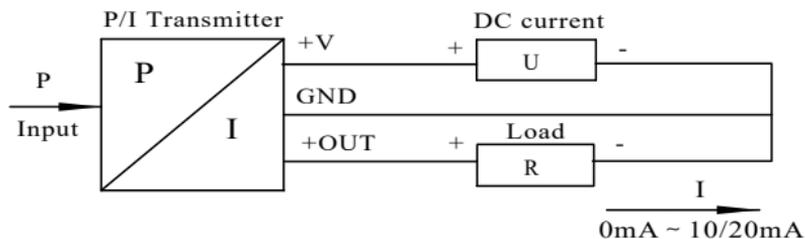

Fig 4
4.1.2 Electrical connection method of transmitter with 3-wire 0mA~10/20mA DC output, to fig 4.